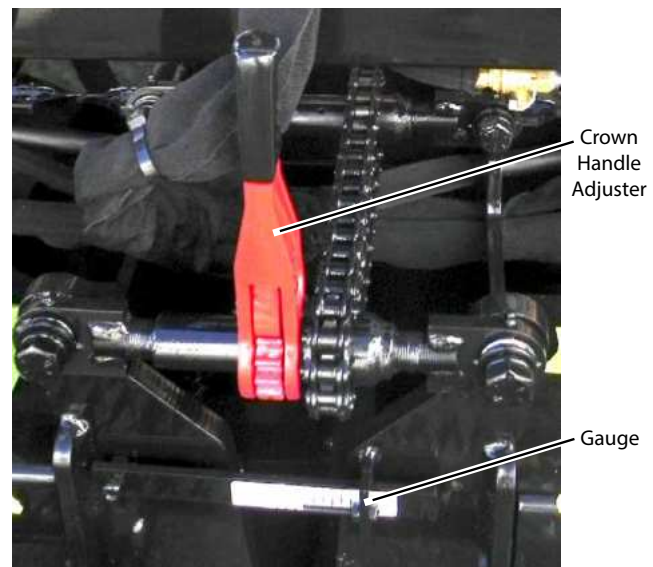

Figure 4-55. Crown Adjustment
2. Use the crown handle adjuster for setting positive or negative crown: (Figure 4-55)